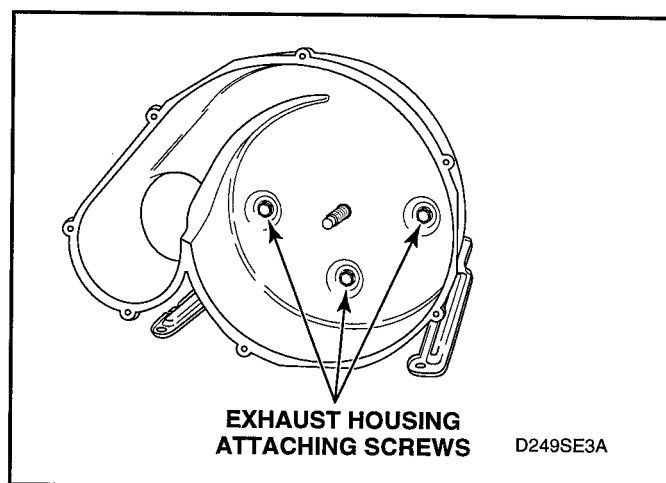

Figure 5-19
3. Remove three screws holding the exhaust housing to the motor mounting bracket. See figure 5-19.